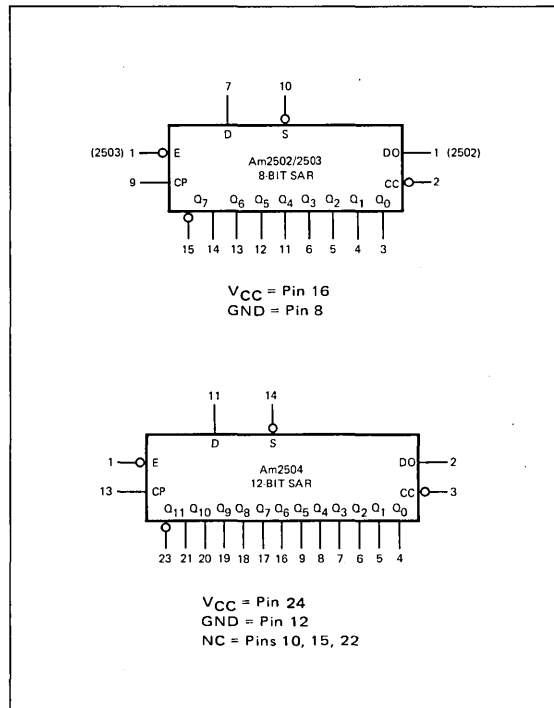

Figure 1. Successive Approximation Register Logic Symbols
The logic symbols and pin numbers of the registers are shown in Figure 1. Each device is a special-purpose serial-to-parallel converter with a single line serial data input (D) and 8 (12 in the case of the Am2504) parallel data outputs. Both true and complement of the most significant bit are brought out to facilitate signed conversion. The register is driven by a single-phase TTL clock, and the register outputs change state synchronously on the LOW-to-HIGH transition of the clock.